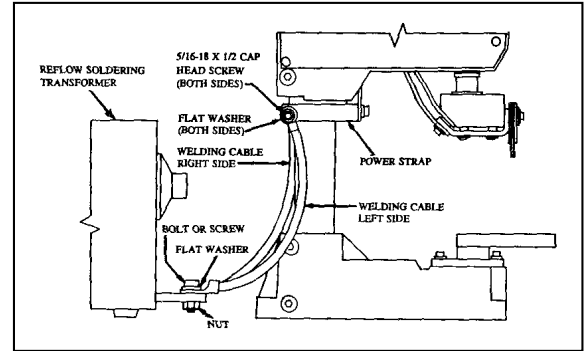

Figure 2-10. 90RF and 90RA Reflow Soldering Head Connections
- 1 Reference Figure 2-10. Position the Power Supply or Welding Transformer approximately 4 to 5 inch